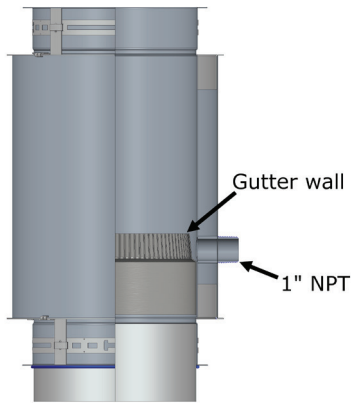

Figure 8- Vertical Drain Length
A Drain Section is used to drain water on vertical installation. It is a special variation of an 18" pipe length with provision to drain rain or condensate from the chimney. The pipe flue is equipped with an annular gutter wall and a 1" (25) NPT nipple extending through the casing for attachment of drain piping. See Figure 8 for details. The drain piping should include a water leg of a height at least equal to the maximum expected operating pressure at the appliance outlet to avoid allowing flue gases to vent through the drain. Drain Length should be installed indoors to prevent freezing.